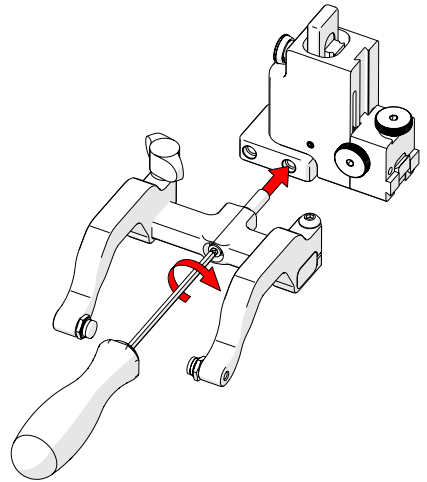

Fig. 184 - Screw into threaded hole
7. Screw the yoke to the probe holder (Fig. 184).